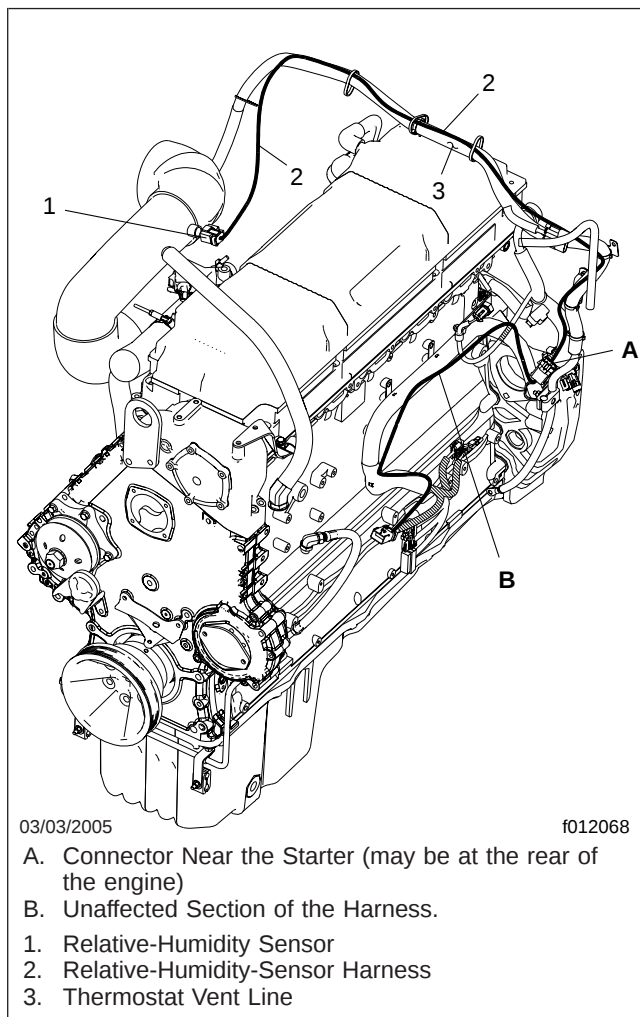

Fig. 2, Relative-Humidity-Sensor Harness (typical routing)
5. Reroute/replace the relative-humidity-sensor harness. See Fig. 2.